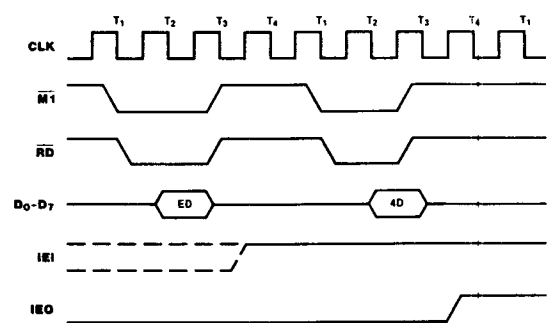

Figure 19. Return From Interrupt
**Return From Interrupt Cycle.** If a Z80 peripheral has no interrupt pending and is not under service, then its IEO = IEI. If it has an interrupt under service (i.e., it has already interrupted and received an interrupt acknowledge) then its IEO is always Low, inhibiting lower priority devices from interrupting. If it has an interrupt pending which has not yet been acknowledged, IEO is Low unless an "ED" is decoded as the first byte of a 2-byte opcode (Figure 19). In this case, IEO goes High until the next opcode byte is decoded, whereupon it goes Low again. If the second byte of the opcode was a "4D," then the opcode was an RETI instruction.